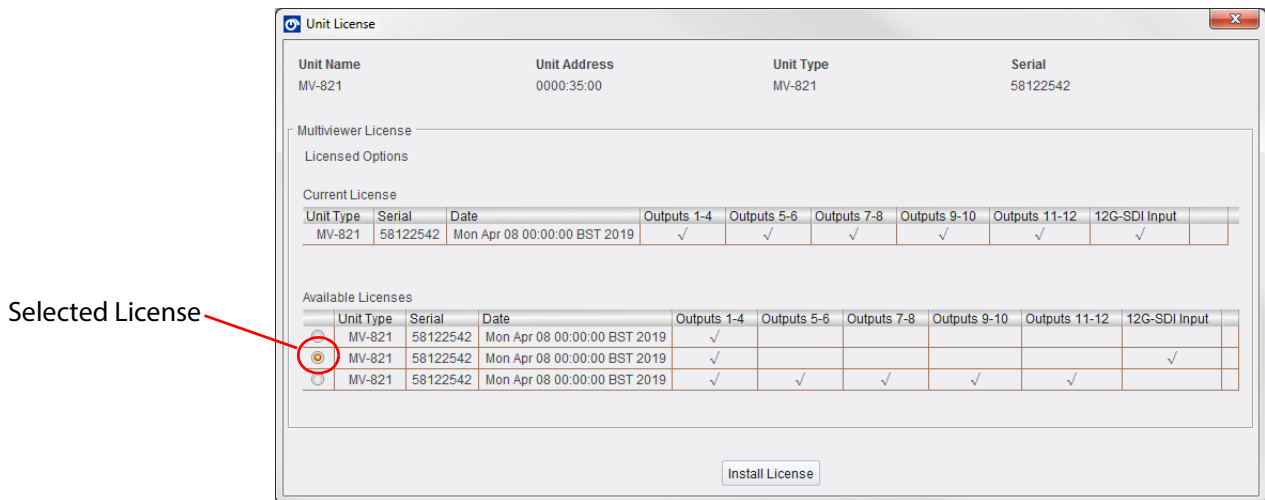

Fig. 10-4: Unit License Dialog - Selected License (An image for MV-821 is shown)
- 2 The **Unit License** window shows current licenses and available licenses. See Figure 10-4.